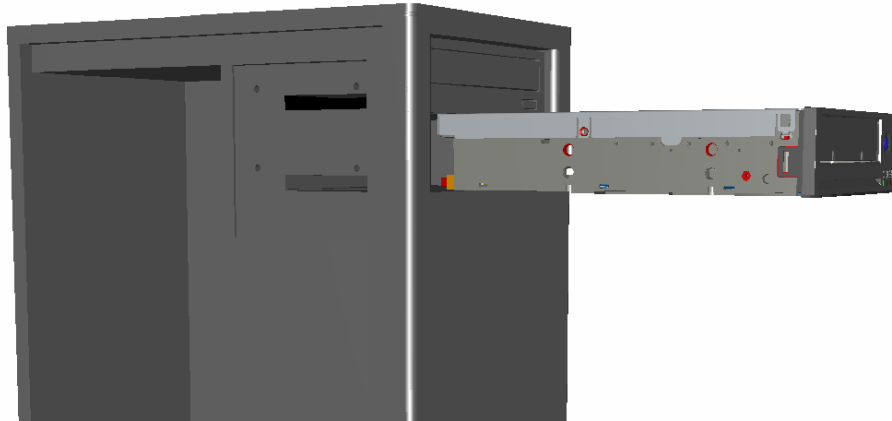

Figure 3.8 Installing the internal tape drive
2. Slide the tape drive into the bay, as shown in Figure 3.8.